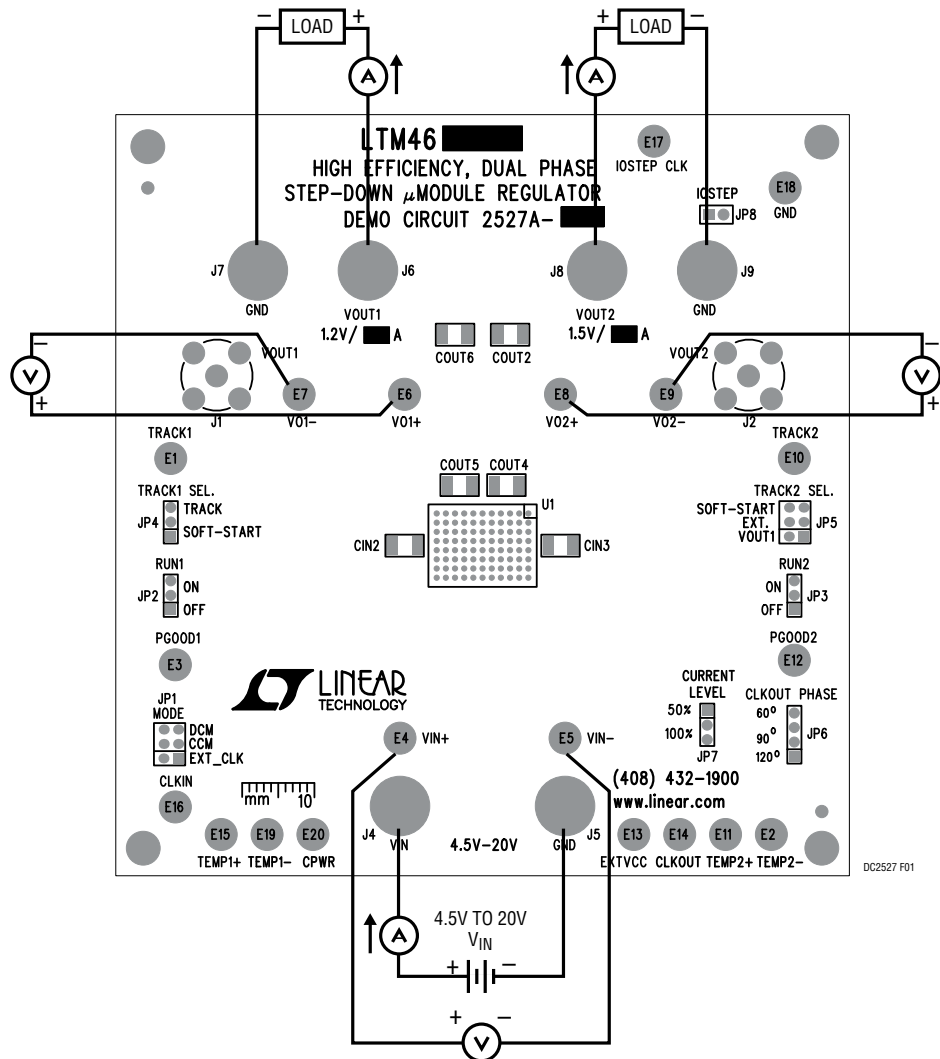

Figure 1. Measurement Setup of DC2527A
Demonstration circuit DC2527A-A is an easy way to evaluate the performance of the LTM4662EY. Please refer to Figure 1 for proper measurement equipment setup and follow the procedure below:
2. With power off, connect the input power supply, load and meters as shown in Figure 1. Preset the load to 0A and V_{IN} supply to 12V.